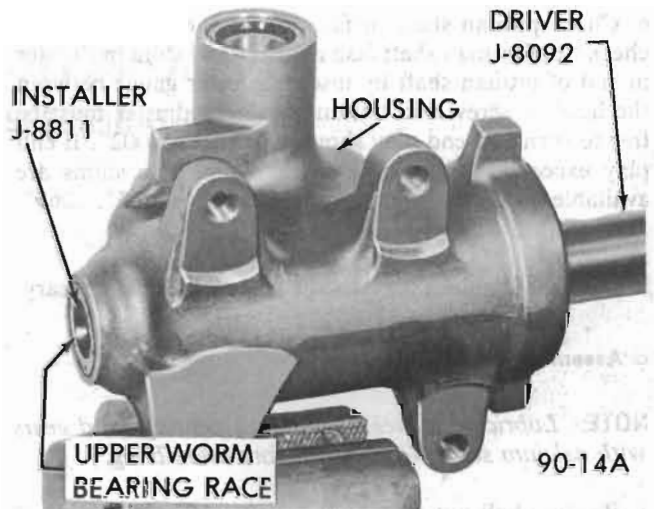

Figure 90-8 Installing Upper Worm Bearing Race
2. Inspect worm bearings and races for damage or excessive wear. Replace bearings if necessary. The lower worm bearing race is not replaced separately, but is serviced with the worm bearing adjuster. If upper worm bearing race is defective, drive race out of housing using Remover J-8810 with driver handle J-8092 and install new race using Installer J-8811 with driver handle J-8092. See Figure 90-8.